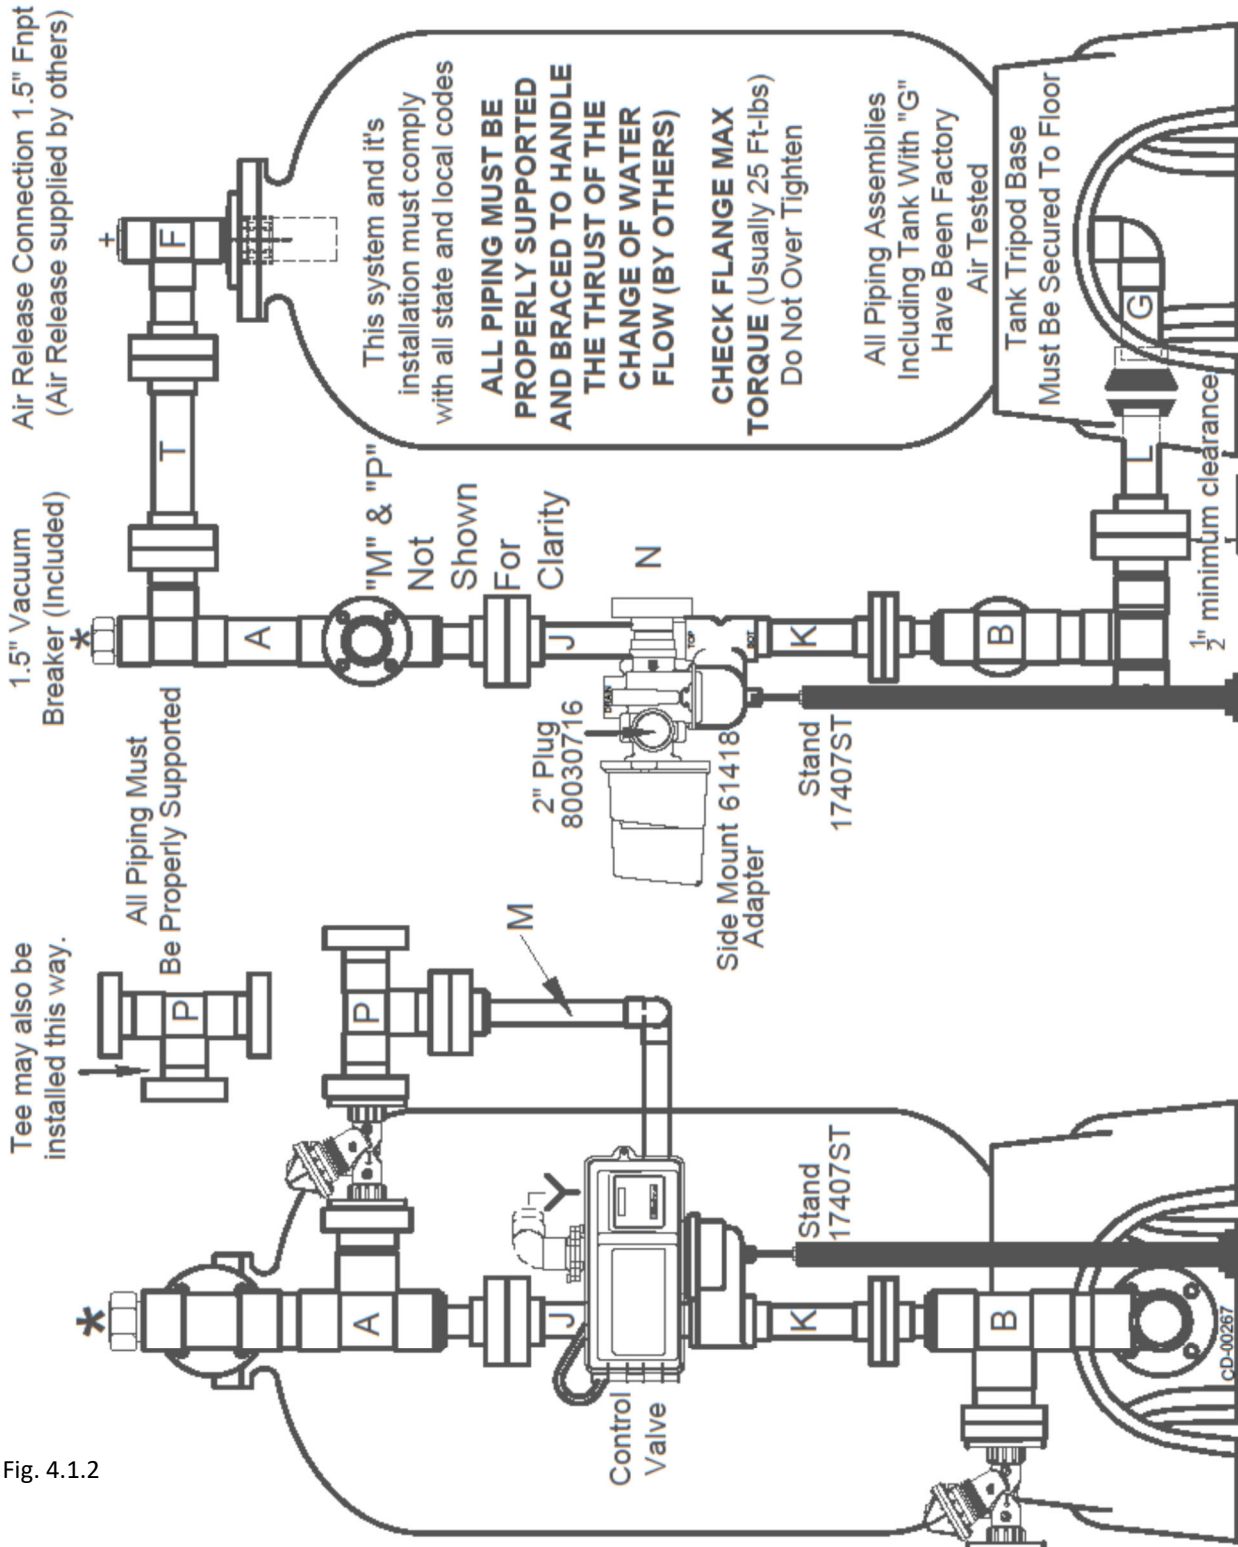

Fig. 4.1.2
- The tanks must be installed allowing at least a 1/2" clearance between the bottom piping & the floor (see figure 4.1.2). The tank legs can be shimmed if required. Care must be taken when moving the tank so the distribution will not be damaged.
- All manifold assemblies are marked with letters as shown in figure 4.1.2. Between each flange, a flange gasket must be used. Care must be taken when tightening the flange bolts. The bolts are tightened evenly to a maximum torque of 25 ft/lbs (see section 4.2) Overtightening them may cause them to fail. Note that the inlet tee (P) can be installed horizontally or vertically as required.